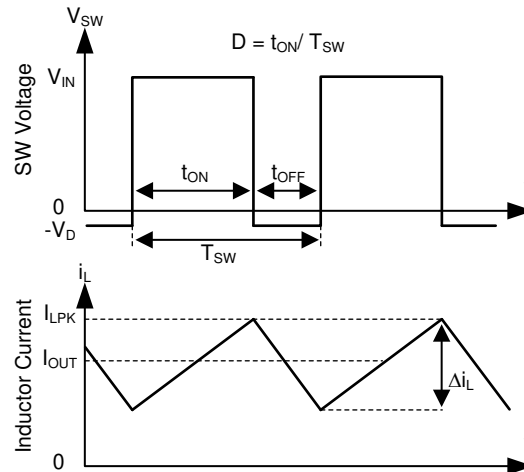
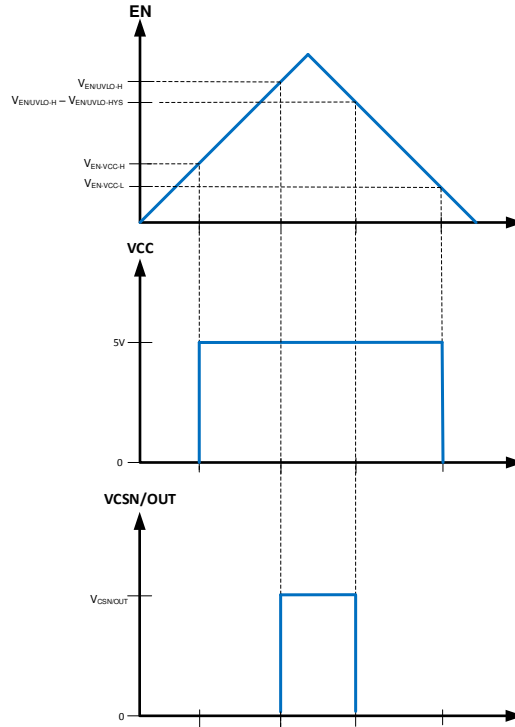

图 10-1. SW Node and Inductor Current Waveforms in Continuous Conduction Mode (CCM)
图 10-2. Precision Enable Behavior
The following operating description of the TPS2583xA-Q1 will refer to the Figure 10.2 and to the waveforms in Figure 10-1. TPS2583xA-Q1 is a step-down synchronous buck regulator with integrated high-side (HS) and low-side (LS) switches (synchronous rectifier). The TPS2583xA-Q1 supplies a regulated output voltage by turning on the HS and LS NMOS switches with controlled duty cycle. During high-side switch ON time, the SW pin voltage swings up to approximately V_{IN} , and the inductor current i_L increase with linear slope $(V_{IN} - V_{OUT}) / L$. When the HS switch is turned off by the control logic, the LS switch is turned on after an anti-shoot-through dead time. Inductor current discharges through the LS switch with a slope of $-V_{OUT} / L$. The control parameter of a buck converter is defined as Duty Cycle $D = t_{ON} / T_{SW}$, where t_{ON} is the high-side switch ON time and T_{SW} is the switching period. The regulator control loop maintains a constant output voltage by adjusting the duty cycle D . In an ideal buck converter, where losses are ignored, D is proportional to the output voltage and inversely proportional to the input voltage: $D = V_{OUT} / V_{IN}$.
The TPS2583xA-Q1 is internally compensated as shown in 图 10-1. The internal compensation is designed such that the loop response is stable over the specified operating frequency and output voltage range. The TPS2583x-Q1 is optimized for transient response over the range $300 \text{ kHz} \leq f_{sw} \leq 2300 \text{ kHz}$.